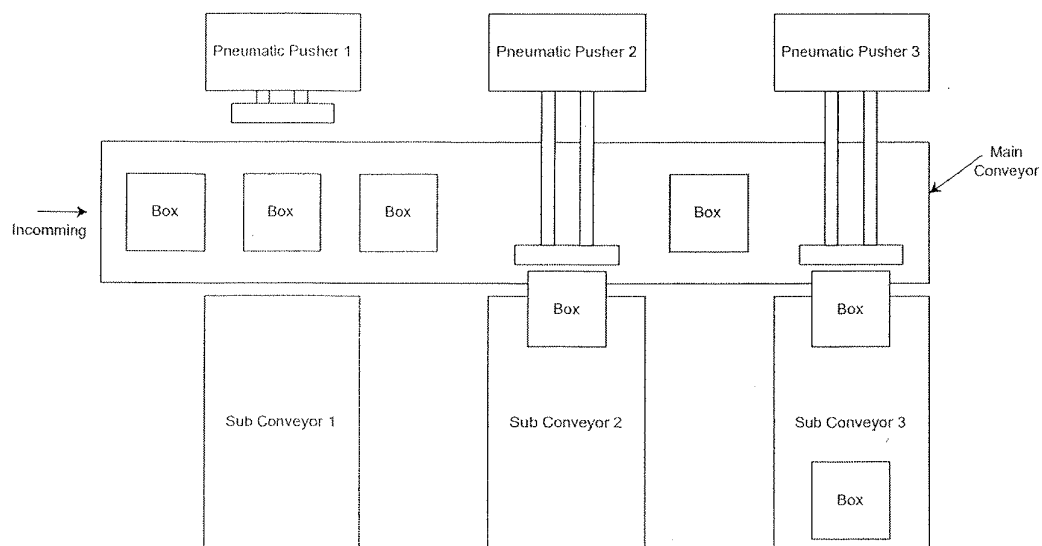

Figure Q5b
- b) A sorting station is depicted in Figure Q5b, designed for sorting boxes based on their height.